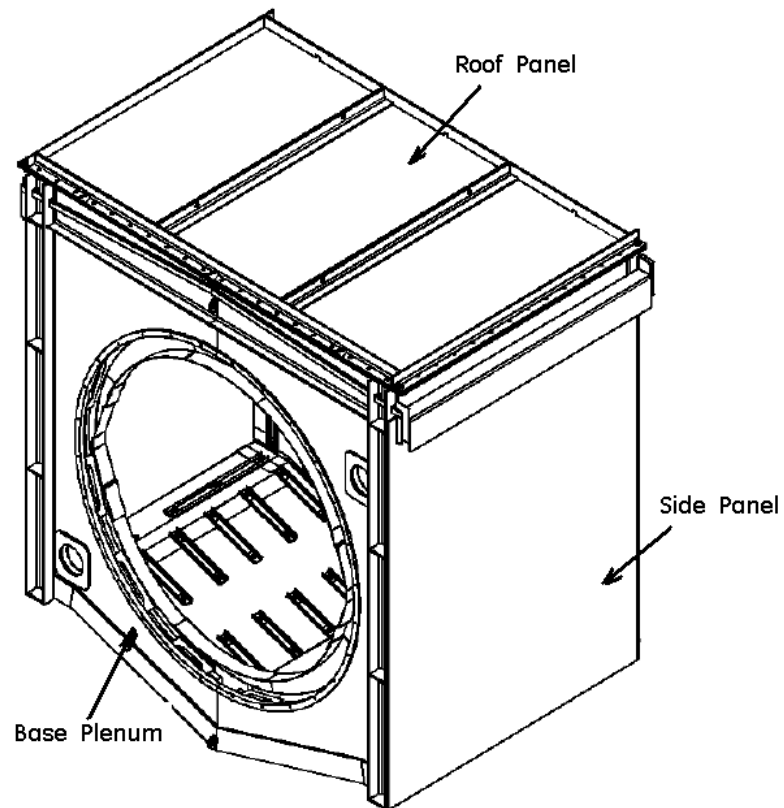

Figure 3. Typical 5N and 5P class MLI 1625 Arrangement
- 5N and 5P class 1625 arrangement (See Figure 3)